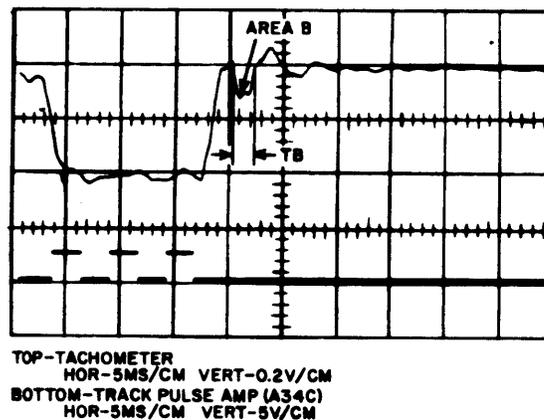

Figure 6-18. Tachometer Output (Reverse Seek)
13. The reverse stop pulse delay is the time between the trailing edge of the last track pulse and the leading edge of the stop pulse during a Reverse Seek. This delay times the dropping of the detent pawl with respect to the detent gear position. Figure 6-18 shows the tachometer output trace for a properly adjusted delay (area B is the rebound caused by the pawl/gear engagement). The pawl should not engage the gear before zero velocity is reached. The amplitude and duration of TB is primarily a function of the accuracy of the detent gear and timing disk assembly. It is therefore necessary to inspect the operation at a minimum of three positions (approximately Tracks 09, 100, and 189).
- a. Connect the oscilloscope external trigger to test point C of K214 Reverse FF (C28). While the actuator performs a 3-track seek centering on Track 100, compare the trace to Figure 6-18.
- b. Adjust Y330 (D34) to make the trace approximate Figure 6-18, if required.